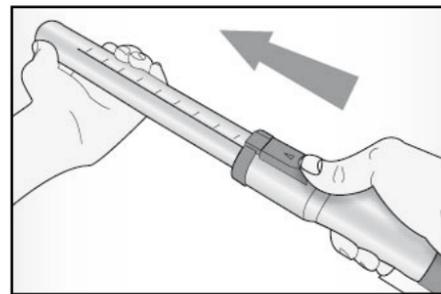

Fig. 4
- Push the slider device (13) forward and pull the bottom section of the rod out to the required length (Fig. 4). Then simply release the slider and the device will return to its original position.